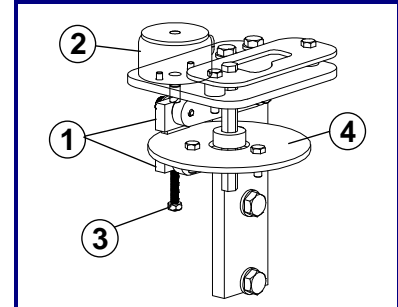

Figure 7.62 – Without the FDS Top Plate
1. Use a 2.5 mm hex wrench to remove the proximity sensor mount (Figure 7.62).